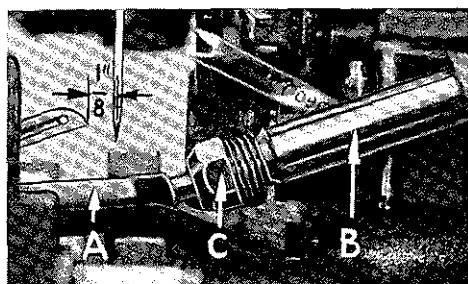

Fig. 5
At this point, insert lower loop (A, Fig. 5) into bar (B). With lower loop at left end of its stroke, set loop point 1/8 inch from center of needle (Fig. 5), using loop gauge No. 21225-1/8. Do not have lower loop deflecting needle. Tighten nut (C).